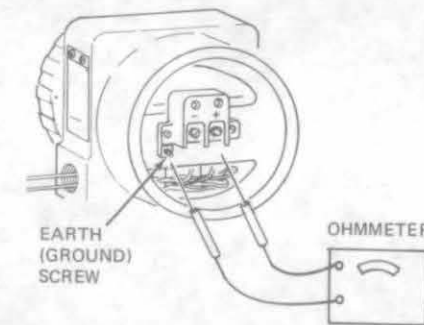

Figure 23
1. Disconnect blue and red leads at module. Use ohmmeter to check continuity between input terminals and ground, as shown in Figure 23.